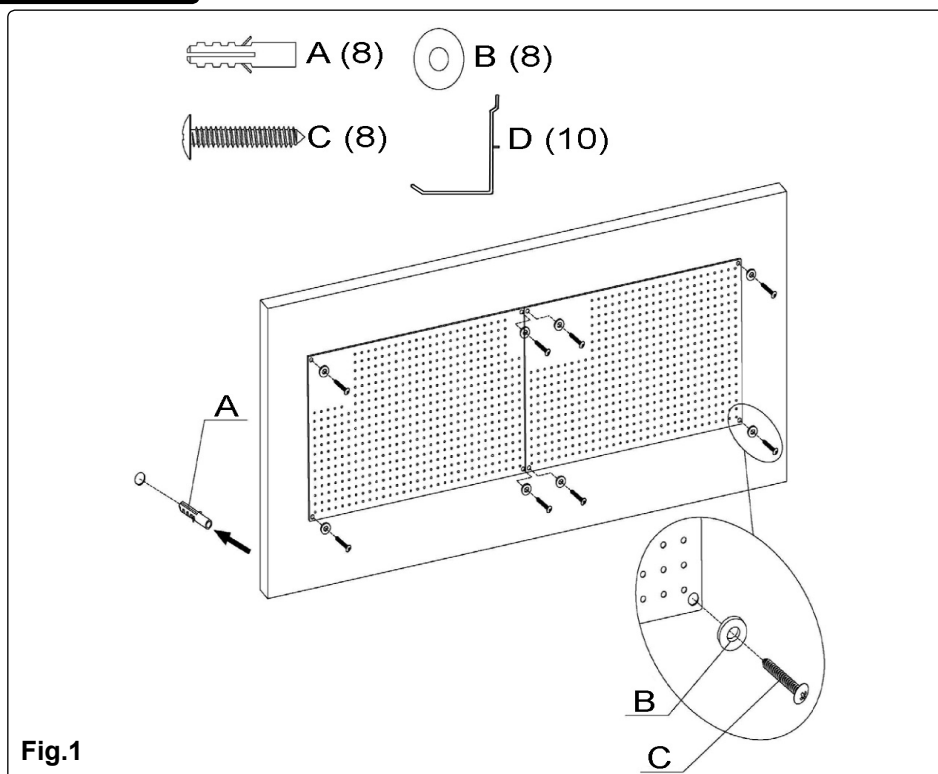

Fig.1
5.1 Fitting the peg board directly to a wall (Fig.1).